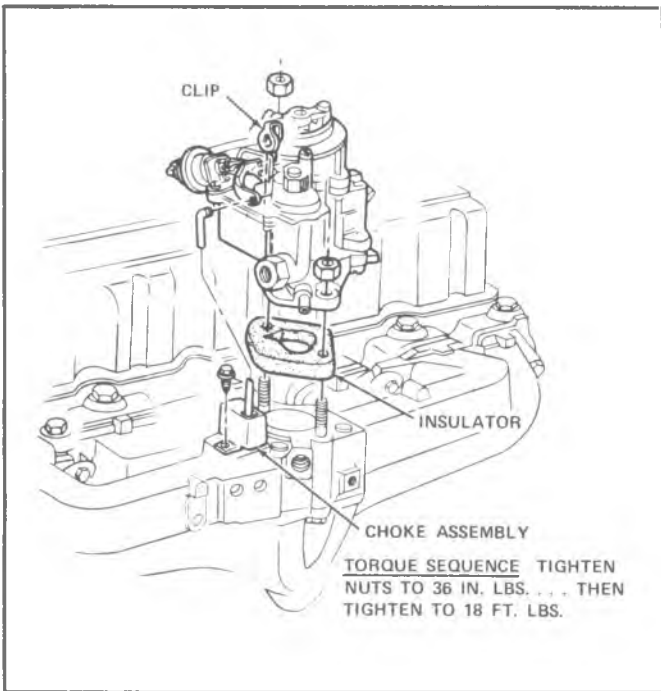

Fig. 16—Carburetor, Choke and Heat Stove
**CARBURETOR REPLACEMENT (Fig. 16)**